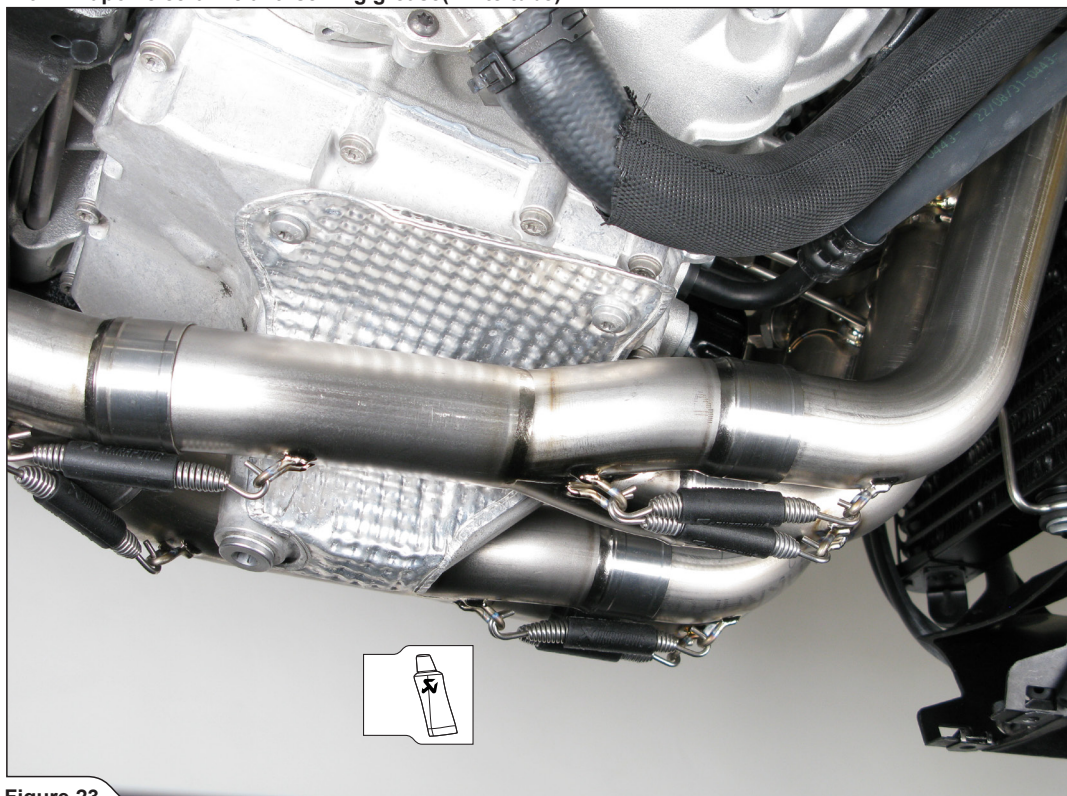

Figure 23
7. Slide the assembled link pipe and collectors onto the header tubes and attach the springs (**Figure 23**).